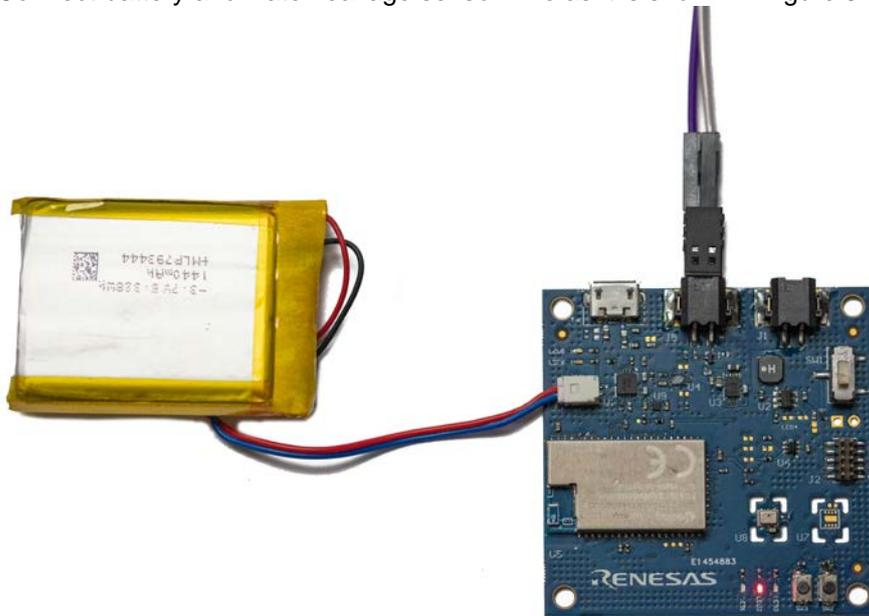

Figure 3. Battery and Water Leakage Sensor connection
4. Connect battery and water leakage sensor wire as it is shown in Figure 3